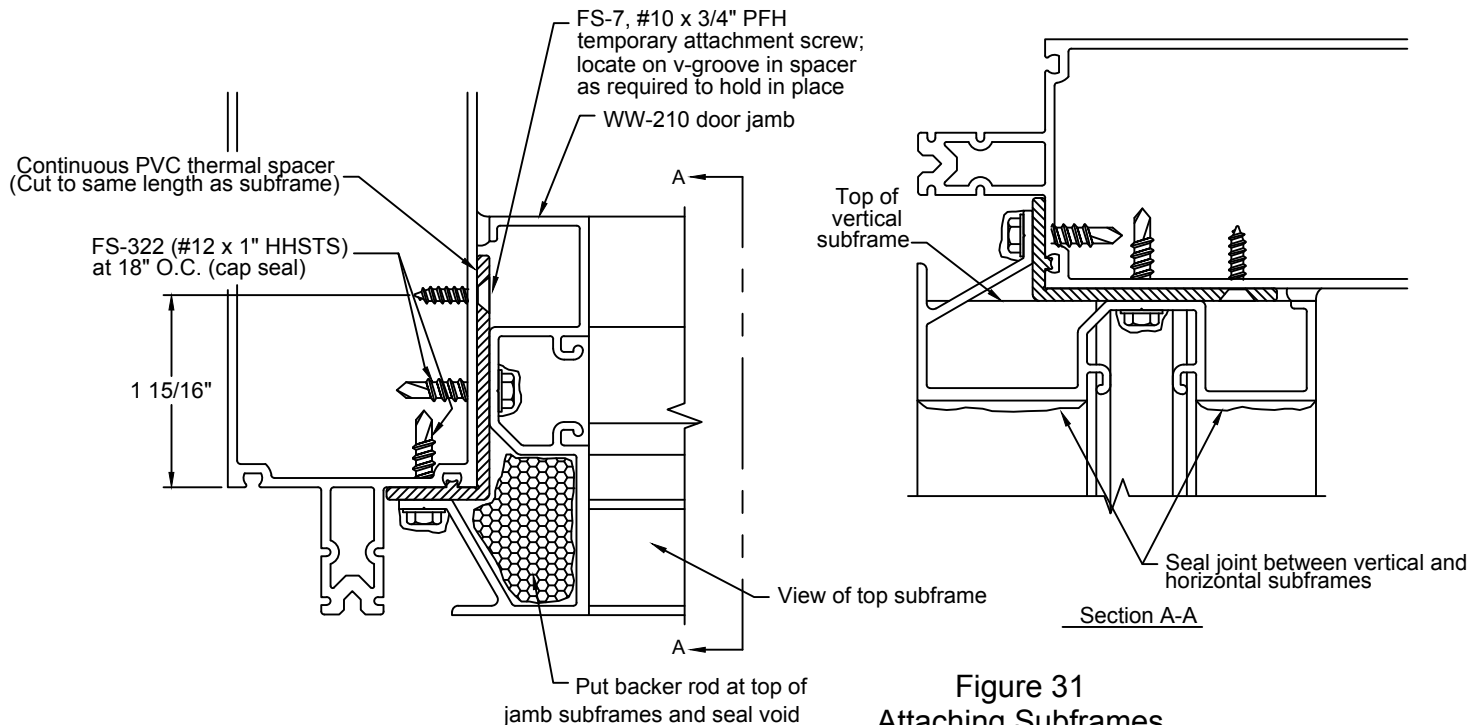

Figure 31
- C.2.1 Attach TH-44 threshold clip to bottom of each jamb subframe with two (2) FS-256 #8 x 1 1/2" Phillips Round Head screws.
- C.2.2 Install thermal spacer into curtain wall vertical glazing reglet. Hold in place with silicone if necessary. SEE FIGURE 31.